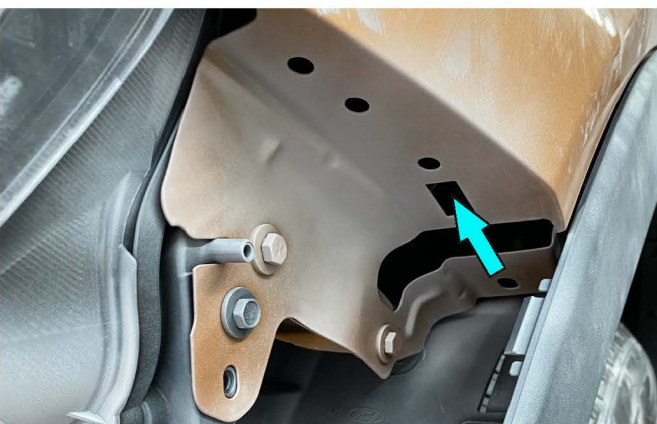

Fig.34
34. Install insert nuts M6 with 2 nuts (item 7) on both sides of the vehicle (fig.34).